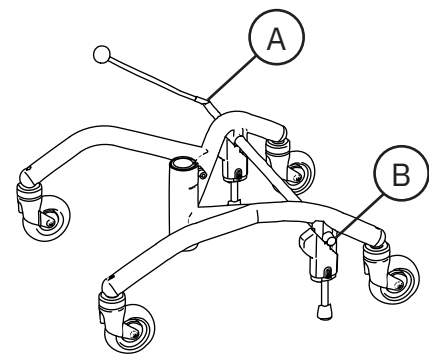

Figure 5.19. Brake lever.
The brake lever can be placed on the right (A) or left (B) side of the base (see Figure 5.19).